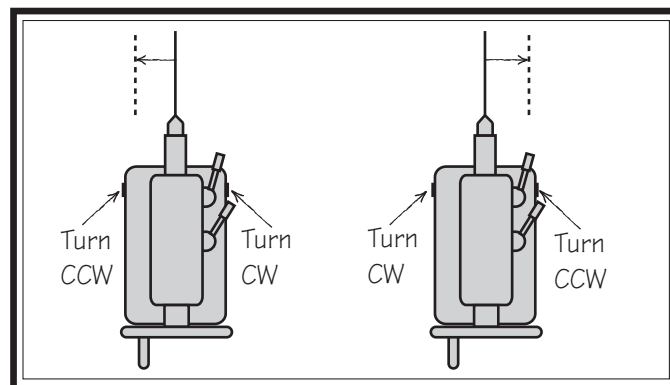

Figure 44. Set screw adjustment in relation to tailstock movement.
2. Rotate the adjustment set screws in opposite directions for the desired offset (see the illustration in **Figure 44**).